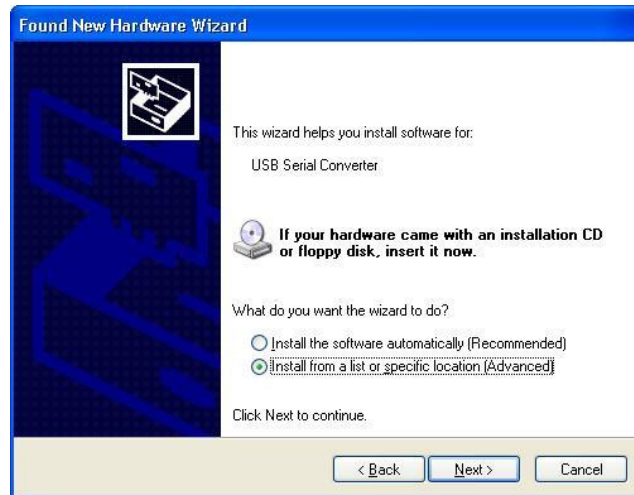

Figure 7
- Select "Install from a list or specific location (Advanced)" as shown in Figure 7 below and then click "Next".